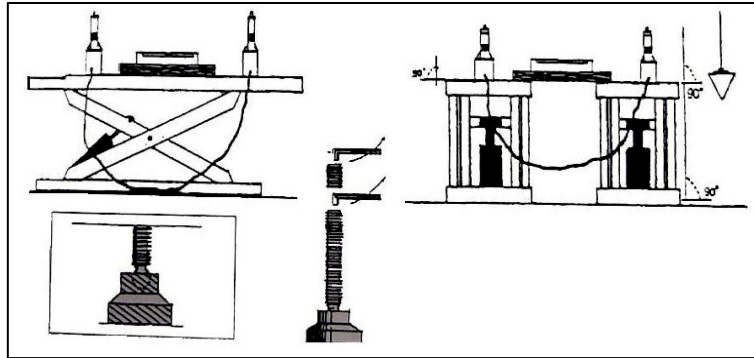

Fig. 18
- Inspect that the surfaces of the left and right platforms are level laterally and longitudinally with a transparent leveling pipe or level gauge (Fig. 18).